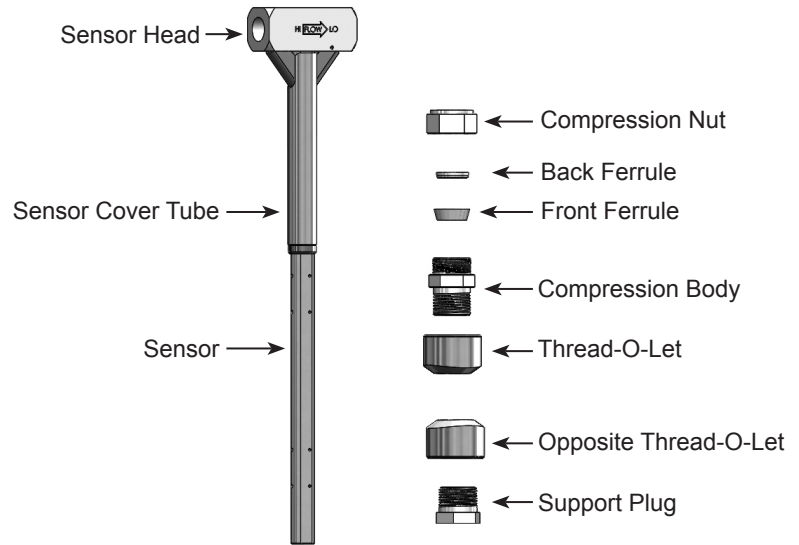

Figure 2. Verabar® Model V110 Assembly
- Loosely assemble the sensor, compression nut, back ferrule, front ferrule and compression body to the thread-o-let (hand tight) and insert the sensor assembly into the pipe. The back ferrule and front ferrule must be in the proper sequence and orientation as shown in Figure 2.
- Slide the compression nut, back ferrule, then front ferrule, onto the covertube. **The back and front ferrules must be in proper sequence and orientation as shown in Figure 2.** The back ferrule must be next to the compression nut with the tapered end pointing toward the front ferrule. The tapered end of the front ferrule must point toward the compression body.